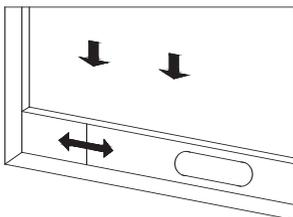
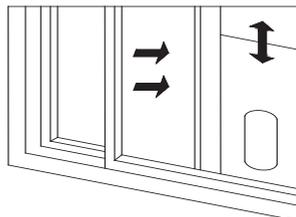

Figure 2
Figure 3
1. Half open the window, and mount the window sealing plate assembly to the window (as shown in Fig.2 and Fig.3). Components can be placed in horizontal and vertical direction.